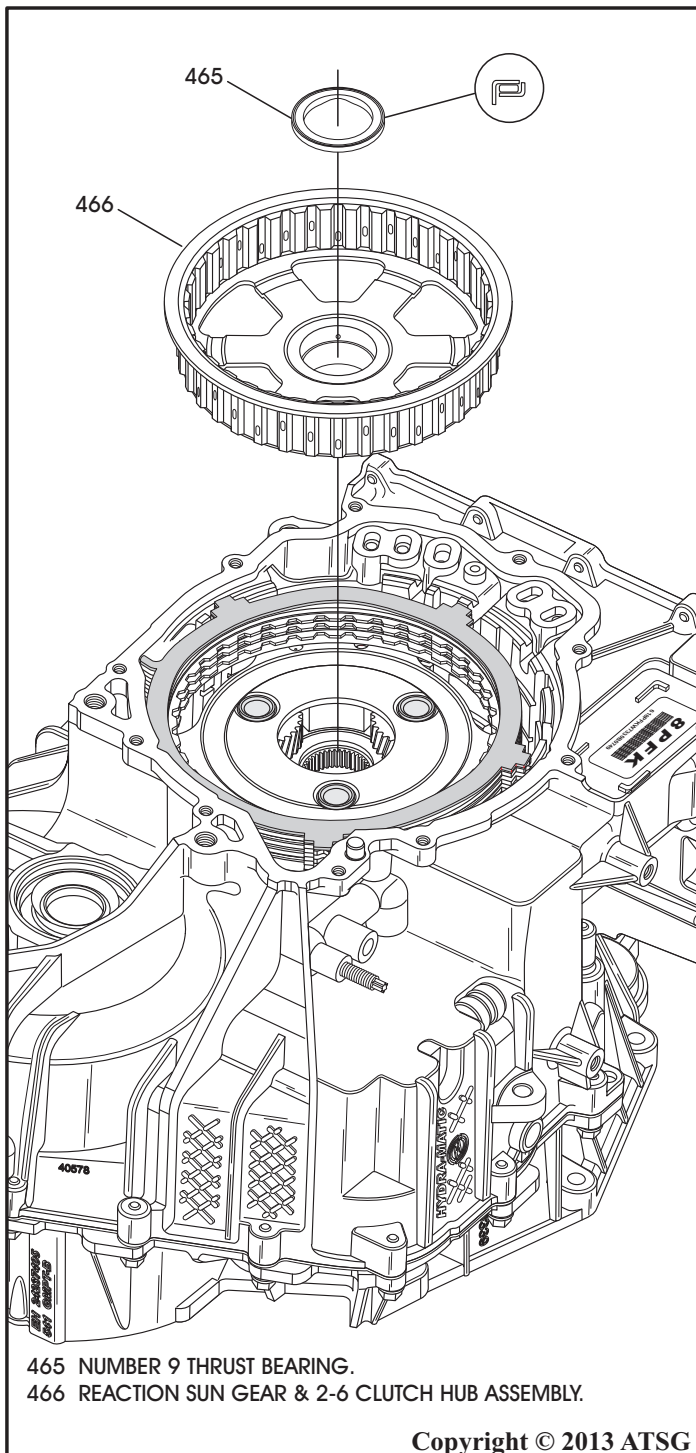

Figure 206
40. Install the reaction sun gear & 2-6 clutch hub assembly, as shown in Figure 206, by rotating back and forth to engage the friction plates until fully seated.
41. Install the number 9 thrust bearing onto the 2-6 clutch hub in direction shown in Figure 206.